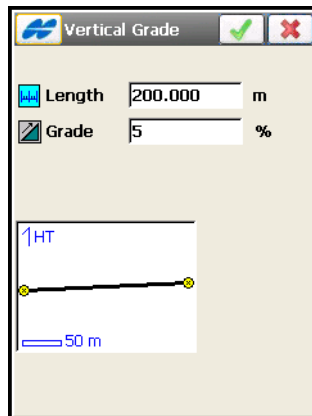

Figure 7-19. Add Vertical Grade
2. On the *Vertical Grade* screen (Figure 7-19), enter the length of the vertical grade element and the grade percentage of the element. If the grade is falling, the value should be set to negative.